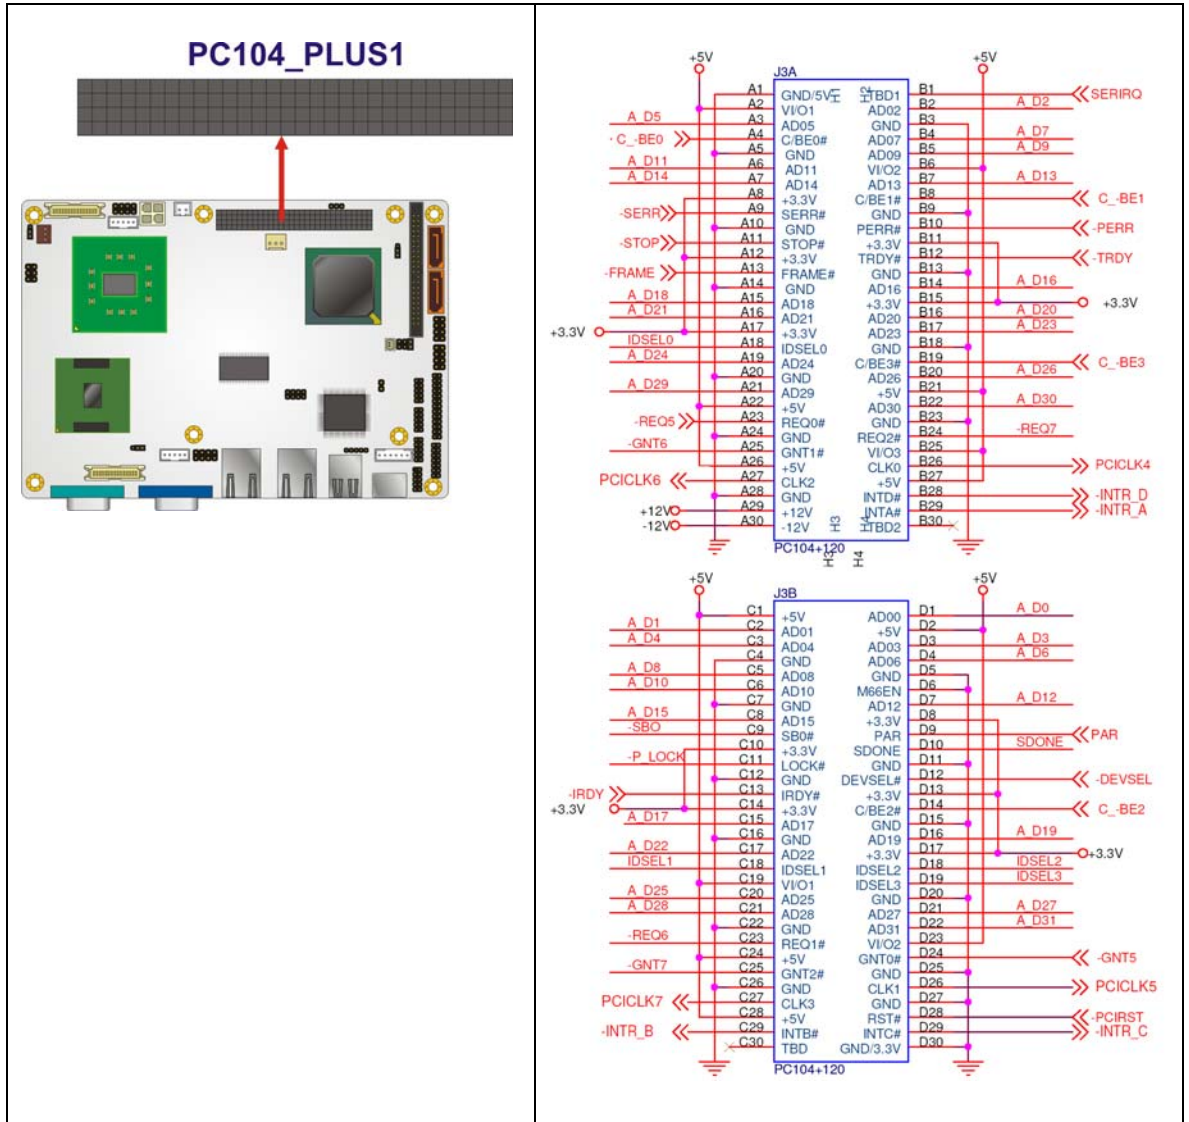

Figure 4-18: PCI-104 Slot Location
- CN Location:** See **Figure 4-18**